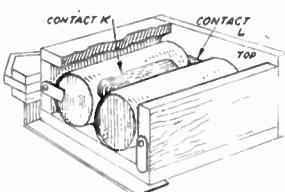

Fig. 1—Batteries in box
Later on, when the side foot pieces are glued on, a round-head screw about  $\frac{1}{8}$  in. or so long will be run in, round which again a short loop of flex is bound and allowed to project into the box to make contact with the side brass plate on the battery at (K), Fig. 1. The switch handle (N) on the pattern sheet will be put over the screw (J) at the same time the wire is threaded through at this place.
Round the base of the box can be glued thin pieces of wood about  $\frac{1}{8}$  in. wide to fill in the gap at the bottom if desired. In Fig. 1 part only of these strips is shown.
At (M) on the pattern sheet the outline of the lugs and method of fixing them are shown, their position at the base of the box being given at Fig. 1. These should work stiffly about the screws and so hold the battery securely in place. Each of the side feet consist of two pieces (E) with one piece (D) between them. See the back straight edges are uniformly flat and lie evenly to the box surfaces indicated by the dotted lines on the patterns.